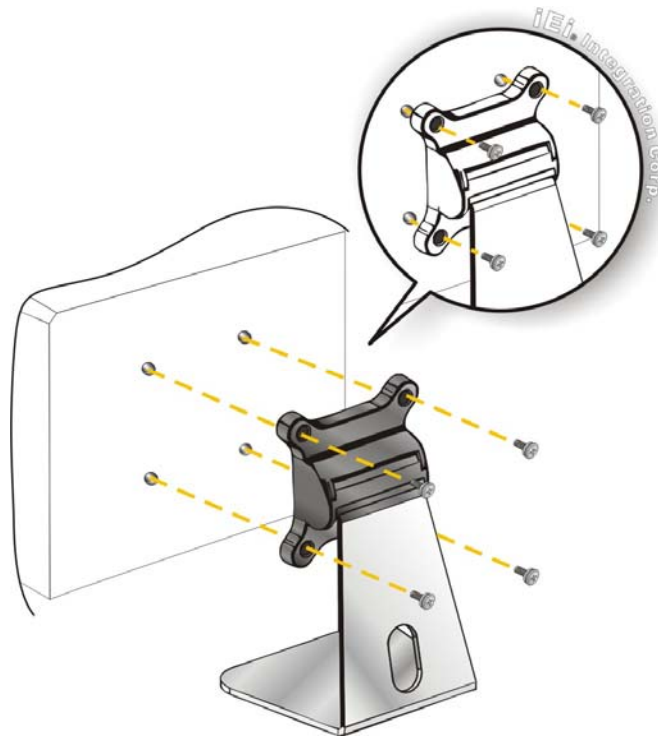

Figure 3-10: Stand Mounting
- Step 2:** Secure the system to the stand with the supplied retention screws (**Figure 3-10**).